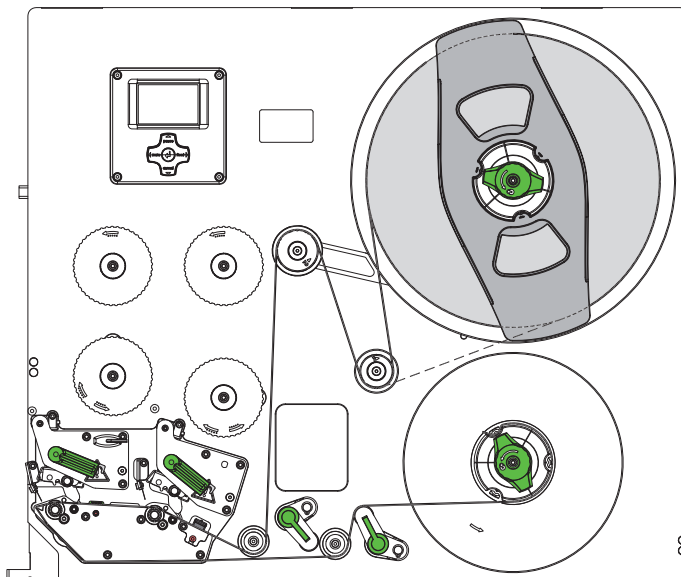

Figure 8 Label feed path
1. Turn the lever (13) clockwise to lift the pinch roller (12) from the backfeed roller (11).
2. Move the guide (8) to the outermost position by turning the spindle (9) with the Allen key (3).
4. Guide label strip (6) to the print unit as shown in Figure 8. The broken line shows the path for inside wound labels.
5. Guide label strip through the label sensor (10) to the peel-off edge (7) and push it against the chassis.
6. Move the guide (8) against the label strip by turning the spindle (9).
7. Forward the label strip over the peel-off edge (7), that the strip reaches back internal rewinder. Remove the labels from the overhanging strip.